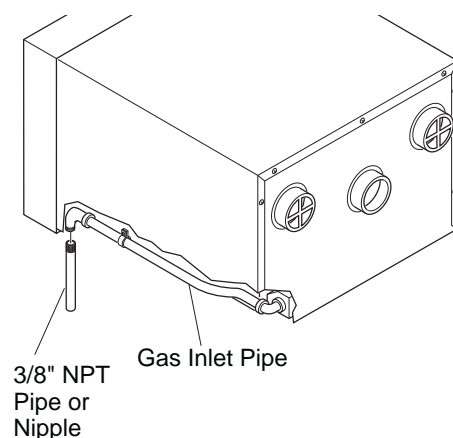

Figure 8 - Connecting Gas from Inside of Room
1. Locate gas inlet pipe on lower, right front of furnace (see Figure 8).
2. Connect 3/8" NPT pipe or nipple to gas inlet pipe (see Figure 8). See *Providing Gas Piping to Furnace*, pages 9 and 10, for correct gas pipe installation.